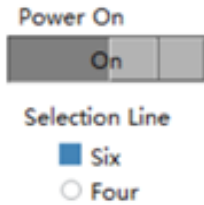
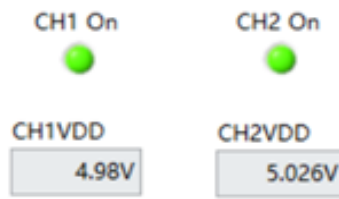

Figure 5.6.6 Powered on successfully
Figure 5.6.7 Powered on abnormally
- Click the button below "Power on/off chip" to power on the chip. When it is powered on successfully, the power on indicator light will remain green (Figure 5.6.6); When it is powered on abnormally, an error pop-up will appear, displaying powered on abnormally (Figure 5.6.7). At this time, it is necessary to check the chip and hardware connections before attempting the power on operation again.